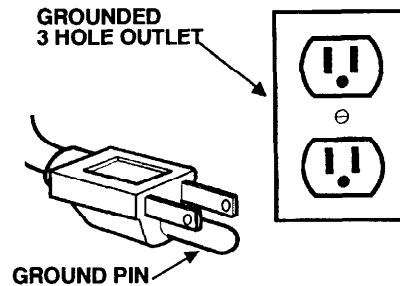

Fig. 12.
7. Plug charger into grounded wall outlet after connecting charger to machine. (Fig. 12)